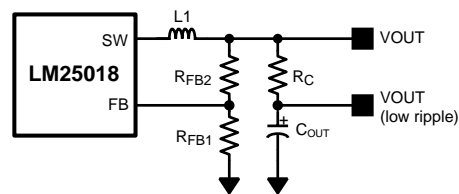

Figure 10. Low Ripple Output Configuration
This regulator regulates the output voltage based on ripple voltage at the feedback input, requiring a minimum amount of ESR for the output capacitor (C_{OUT}). A minimum of 25 mV of ripple voltage at the feedback pin (FB) is required for the LM25018. In cases where the capacitor ESR is too small, additional series resistance may be required (R_C in Figure 10).
For applications where lower output voltage ripple is required the output can be taken directly from a low ESR output capacitor, as shown in Figure 10. However, R_C slightly degrades the load regulation.